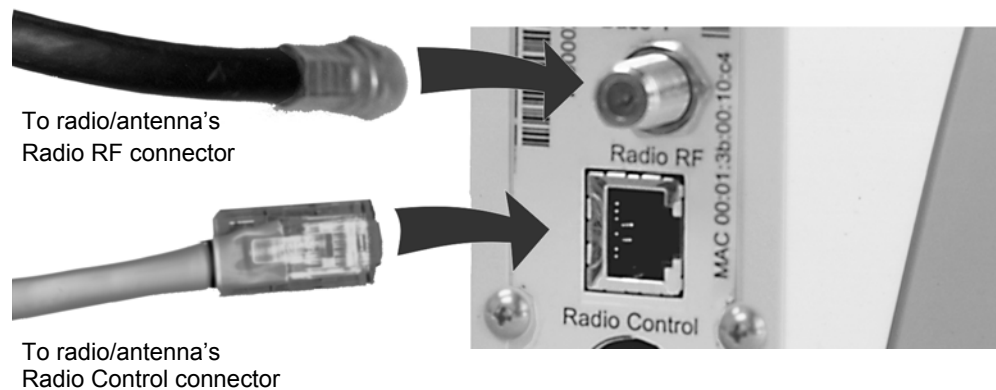

Figure 5-2 Indoor Unit Connections from Outdoor Unit
2. Attach the cable to the **RADIO RF** connector on the Indoor Unit as illustrated in Figure 5-2.
4. Attach the cable to the **RADIO Control** connector on the Indoor Unit as shown in Figure 5-2.